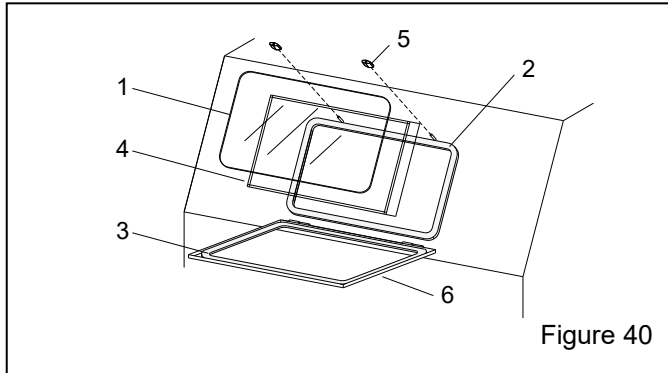

Figure 40
9.3 View-Window Assembly – Figure 40